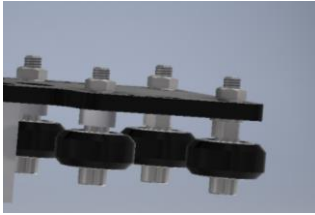

Figure 3
4. When assembling parts with eccentric nuts (Figure 3), ensure that they are fitted in the correct direction. To check, slide an aluminium rod across a rod through the nuts to check for wobbles. If wobbles exist, change the orientation of the eccentric nuts so the plate fits flush with the rods.